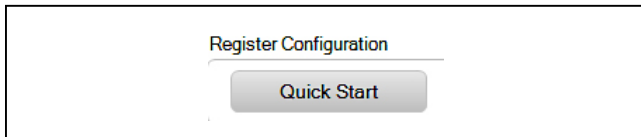

Figure 13. Quick Start Button
- i. Click the **Quick Start** button (Figure 13) for an ASK configuration at 433.92MHz with IF at 200kHz and Manchester data rate at 2kbps.